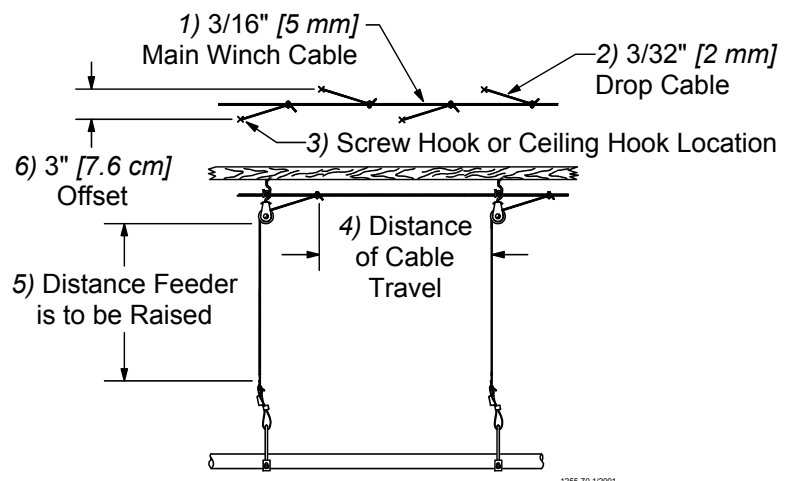
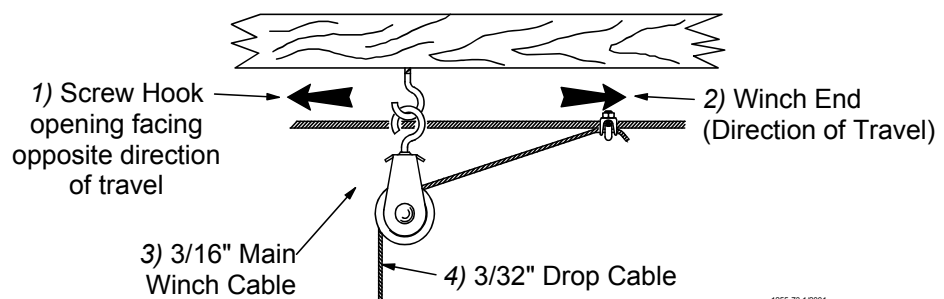

Figure 12. Drop Line Off Set Detail
Figure 13. Screw Hook Installation
If the distance raised is greater than the distance between the drop spacings, offset the hooks 3" [7.6 cm] to each side of the line to prevent the cable clamps from catching the pulleys. See Figure 12. **“Figure 12. Drop Line Off Set Detail” on page 10**
The openings of the screw hooks must be pointed away from the direction of travel when the Power Winch raises the feeder line. See Figure 13. **“Figure 13. Screw Hook Installation” on page 10**
Refer to **Figure 12. Drop Line Off Set Detail** on page 10 **Figure 13 on page 10.**
2. Thread the end of the 3/32" or 1/8" cable through the pulley toward the winch. Clamp this end to the 3/16" winch cable about 6" [150 mm] from the last pulley, using a 3/16" cable clamp. See applicable figure; **Figure 13 or 17.**